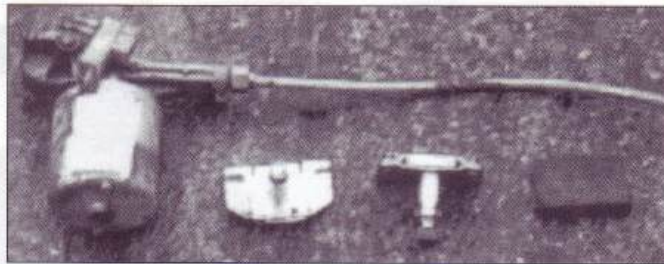

Fig.8a. Mini wiper mechanism
1. If you are starting with a used Mini mechanism (fig.8a), disassemble it as shown in figs.8b and 8c.